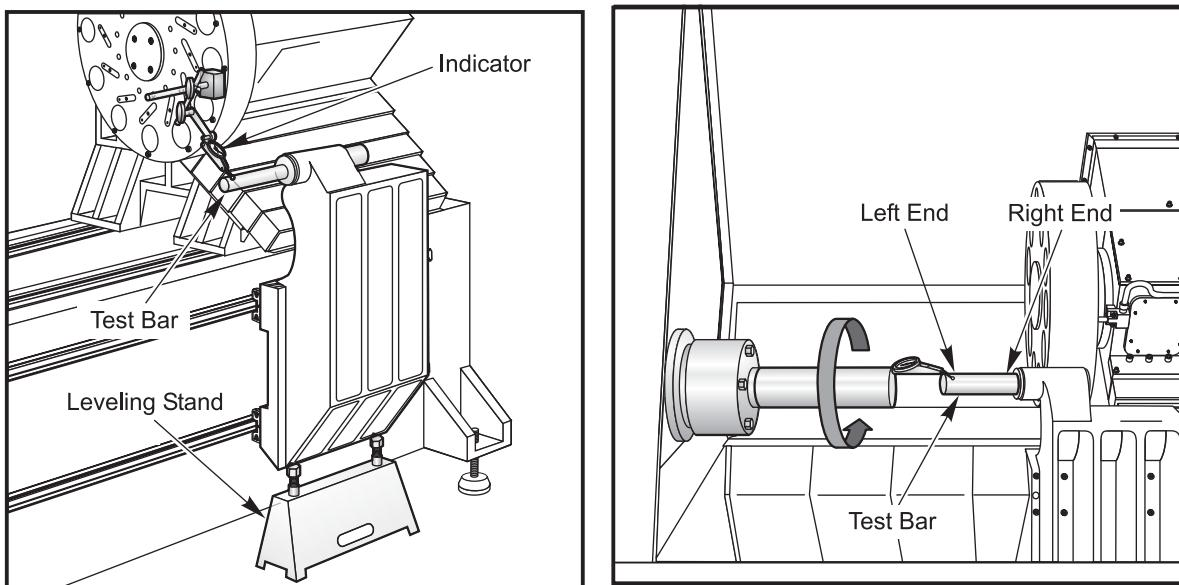

Figure 3.4-1. Tailstock leveling indicator setup.
1. Loosen the mounting bolts that attach the TS to the linear guide trucks, allowing TS to rest on bolts. Place the Leveling Stand under the bottom edge of TS and manually raise the jack bolts. (Refer to Figure 3.4-1)
3. Sweep the diameter of the Test Bar and note the vertical runout. Refer to Figure 3.4-1.